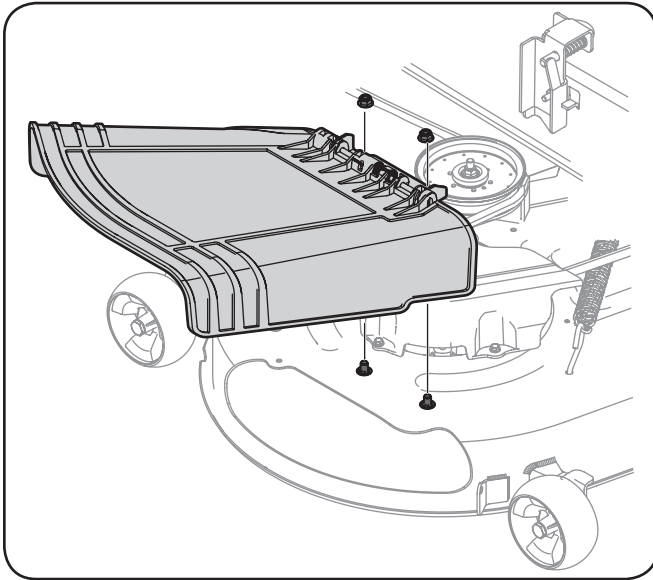

Figure 3-6
3. Install the discharge chute deflector using the carriage bolts, push nuts and flange lock nuts as shown in Figure 3-6.